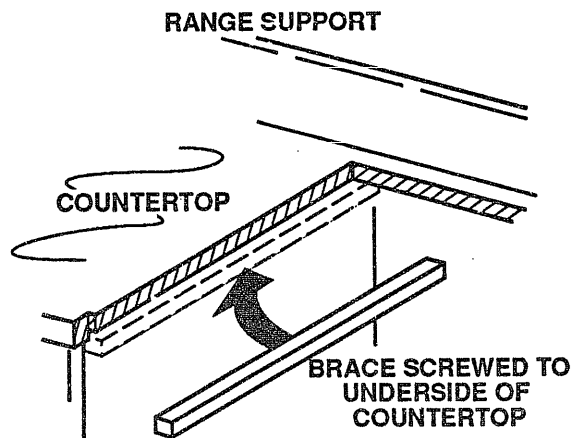

Fig. 1
If countertop is less than 1 1/2" thick, reinforcing braces must be installed under the countertop, on each side. See Fig. 1.
3. Make cutout. If the countertop is not 1 1/2" thick, install reinforcing braces under the countertop as shown on page 1, Fig. 1.